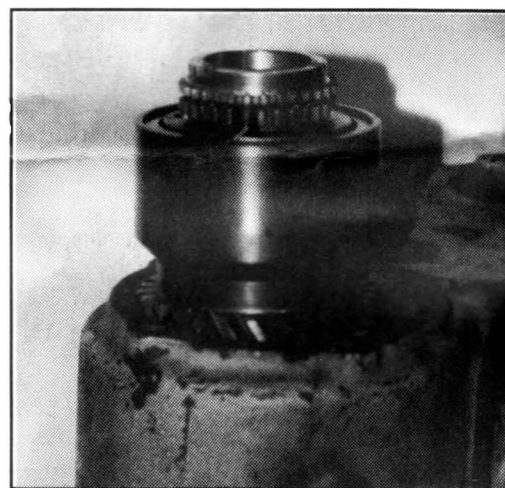

Fig 2- Planetary Unit
- STEP 3:** Install planetary unit onto transmission main shaft (**Fig 2**). Tighten DRIVE NUT to 100-120 ft/lbs. torque. **DO NOT USE IMPACT WRENCH.** Install special lockwasher as follows: One of the eight points on the drive nut must line up with the center of one of the four (A,B,C or D) recesses in the planetary spider. If one of the points will not line up in the center of one of the recesses, then the drive nut will have to be tightened (preferably), or loosened until it does line up. Refer to illustration on Page 24.